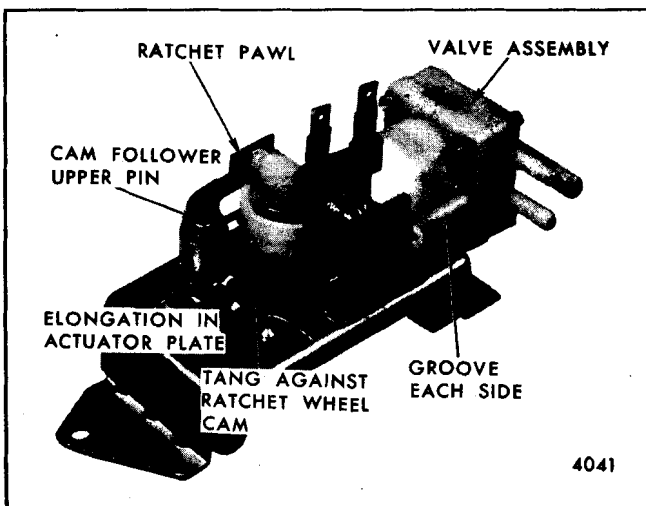

Fig. 2-56-Actuator Plate
The cam follower actually has two pins - an upper and lower. The lower or bottom pin is actuated by the four lobe cam. The upper pin, which extends through an elongated opening in the piston actuator plate has a ratchet pawl assembled on it (Fig. 2-56). Thus, whenever the wiper motor is running, the four lobe cam is rotating and in turn actuates the cam follower assembly. However, no pumping action occurs because the washer pump pumping mechanism is held in a "lock-out" position.
Referring to Fig. 2-56, note that the piston actuator plate has a tang that is resting against a ramp on the lower surface of the ratchet wheel. This tang holds the spring loaded piston actuator plate in a retracted position. With the actuator plate held in a retracted position, the cam follower upper pin will merely move back and forth in the actuator plate elongated opening and no pumping action occurs. The ratchet pawl is held away from the ratchet wheel by a spring loaded solenoid plunger.
2. The ramp on the lower surface of the ratchet wheel has moved to a position where it is holding the piston actuator plate in a lock-out position as shown (Fig. 2-56).